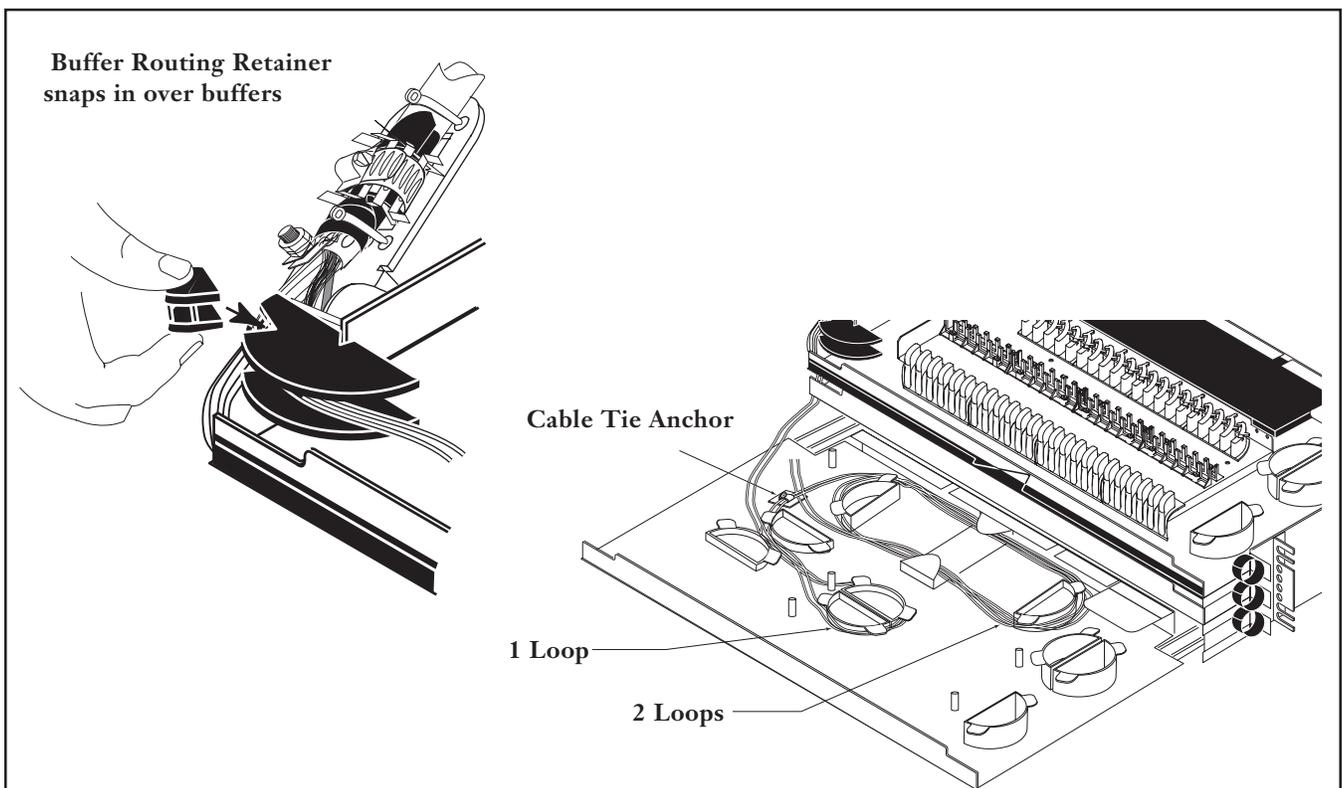

Figure 18
8.7 Cable is routed into the HDF drawer and wound around fiber guides as illustrated in Figure 18. It is important that the drawer be pulled fully forward before routing the buffer tubes. After the buffer tubes are routed around